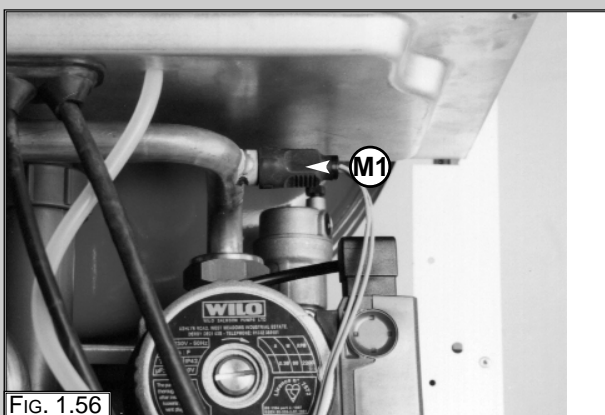

FIG. 1.56
1. Remove the electrical connector "M1" by pulling off (Fig. 1.56);